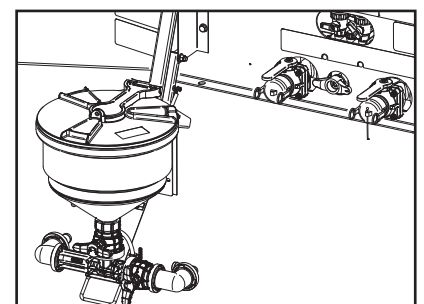

Figure 36
- Lower the pre-mixer toward you to its lowest position. **(figure 36)**